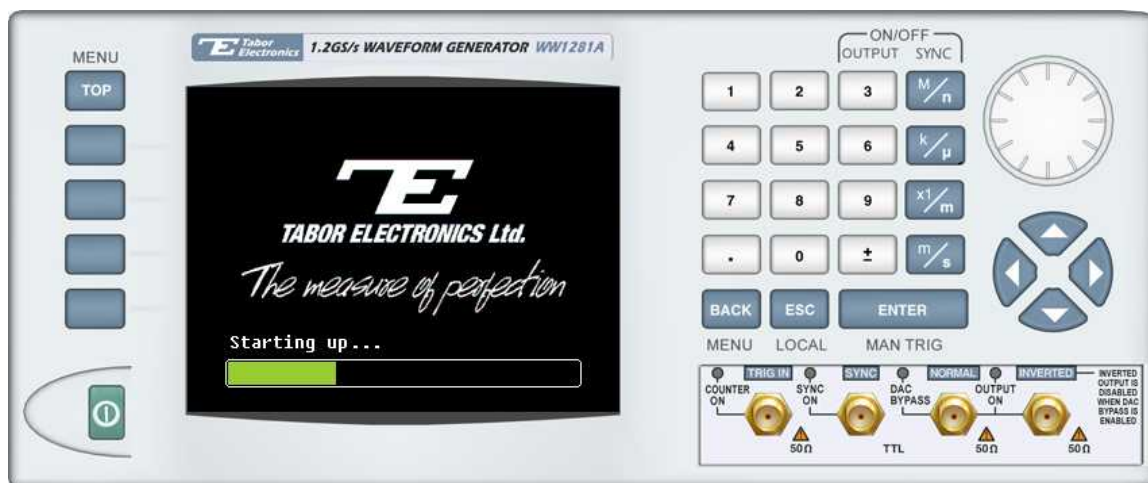

Figure 7-5, Check for Progress Bar Movement
4. Turn the 1281A power **ON** and observe that the progress bar, as shown in Figure 7-5, is advancing from left to right. Do not do anything on the 1281A until the progress bar completes its travel to the right end.